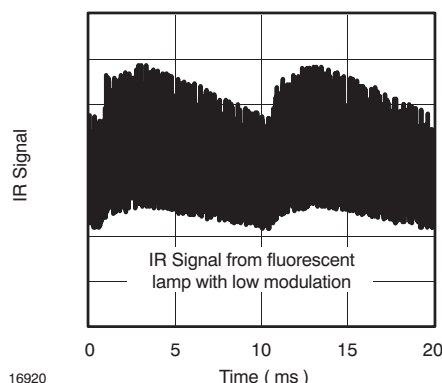

Figure 13. IR Signal from Fluorescent Lamp with low Modulation
- Signals from fluorescent lamps with electronic ballasts with various kinds of modulation (see examples in Figure 13 and Figure 14).